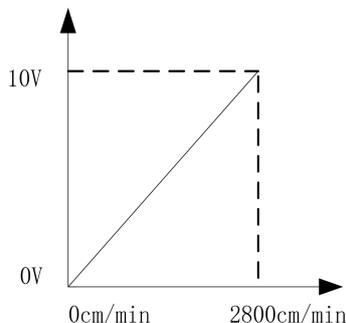

Fig. 4-22 Proportional diagram: preset wire-feeding speed V.S. value from robot to welding machine
1. The proportional diagram of the preset wire-feeding speed is shown in Fig. 4-22.